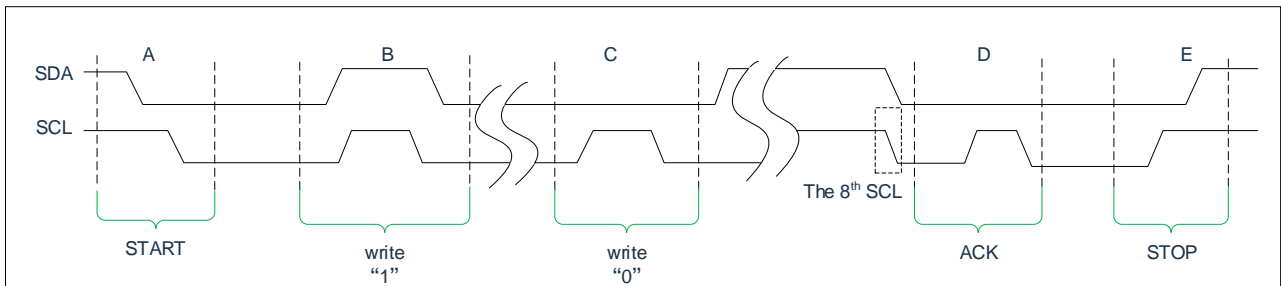

Figure 2-1: CMS1650S communicate protocol
- Start signal: a transition of SDA from a high to a low state while SCL is high. Such as (Figure 2-1) paragraph A.
- Stop signal: a transition of SDA from a low to a high state while SCL is high. Such as (Figure 2-1) paragraph E.
CMS1650S will actively pull SDA down after the falling edge of the 8th clock of serial communication, if this communication is correct. Until the rising edge of SCL is detected, SDA is released to the input state (for chips), such as (Figure 2-1) paragraph D.
- Write "1": SCL from a low to a high state and then from a high to a low state while SDA is high. Such as (Figure 2-1) paragraph B.
- Write "0": SCL from a low to a high state and then from a high to a low state while SDA is low. Such as (Figure 2-1) paragraph C.